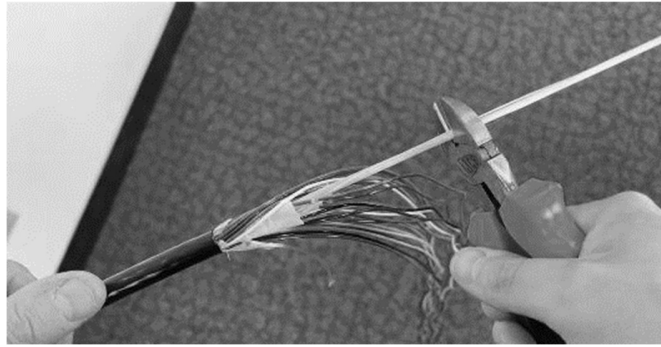

Figure 29 . Cut the central strength member
5.16 Consult the splice closure instructions to determine the length of central strength member that is required for strain relief. With the separated strength member, it is now appropriate to cut it to the required length on both sides of the original split location. (Figure 29).